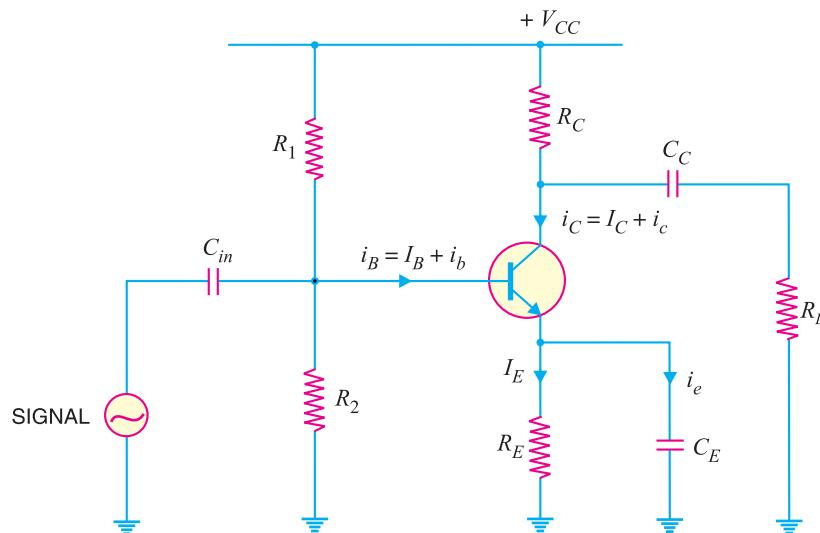
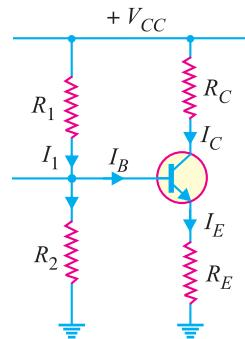
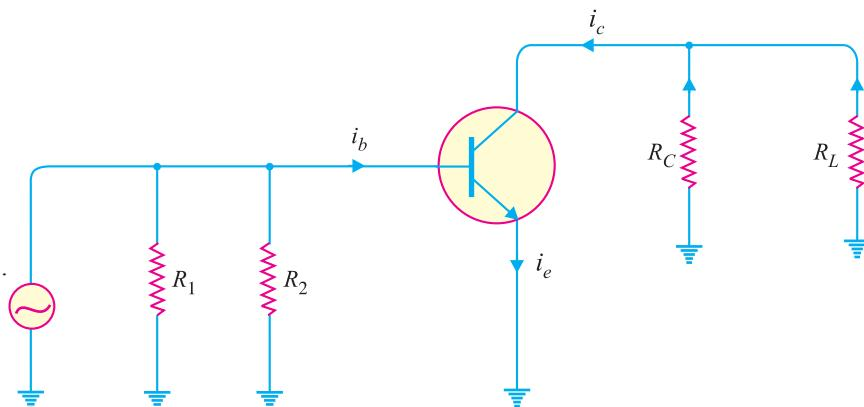

Fig. 10.8
Fig. 10.9
Fig. 10.10
In a transistor amplifier, both d.c. and a.c. conditions prevail. The d.c. sources set up d.c. currents and voltages whereas the a.c. source (*i.e.* signal) produces fluctuations in the transistor currents and voltages. Therefore, a simple way to analyse the action of a transistor is to split the analysis into two parts viz. a d.c. analysis and an a.c. analysis. In the d.c. analysis, we consider all the d.c. sources at the same time and work out the d.c. currents and voltages in the circuit. On the other hand, for a.c. analysis, we consider all the a.c. sources at the same time and work out the a.c. currents and voltages. By adding the d.c. and a.c. currents and voltages, we get the total currents and voltages in the circuit. For example, consider the amplifier circuit shown in Fig. 10.8. This circuit can be easily analysed by splitting it into *d.c. equivalent circuit* and *a.c. equivalent circuit*.
Applying these two steps to the circuit shown in Fig. 10.8, we get the d.c. equivalent circuit shown in Fig. 10.9. We can easily calculate the d.c. currents and voltages from this circuit.
Applying these two steps to the circuit shown in Fig. 10.8, we get the a.c. \*equivalent circuit shown in Fig. 10.10. We can easily calculate the a.c. currents and voltages from this circuit.
**Example 10.4.** For the transistor amplifier circuit shown in Fig. 10.8, determine :
**Solution.** Refer back to the transistor amplifier circuit shown in Fig. 10.8.
**(i)** The d.c. load for the transistor is Thevenin's equivalent resistance as seen by the collector and emitter terminals. Thus referring to the d.c. equivalent circuit shown in Fig. 10.9, Thevenin's equivalent resistance can be found by shorting the voltage source (*i.e.*  $V_{CC}$ ) as shown in Fig. 10.11. Because a voltage source looks like a short, it will bypass all other resistances except  $R_C$  and  $R_E$  which will appear in series. Consequently, transistor amplifier will see a d.c. load of  $R_C + R_E$  *i.e.*
Referring to the a.c. equivalent circuit shown in Fig. 10.10, it is clear that as far as a.c. signal is concerned, resistance  $R_C$  appears in parallel with  $R_L$ . In other words, transistor amplifier sees an a.c. load equal to  $R_C \parallel R_L$  i.e.
(ii) Referring to d.c. equivalent circuit of Fig. 10.9,